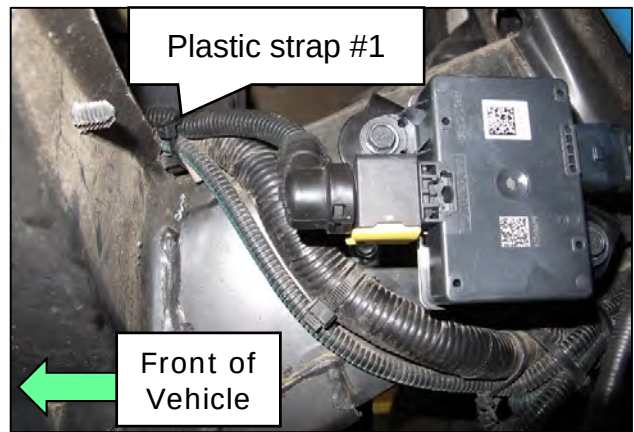
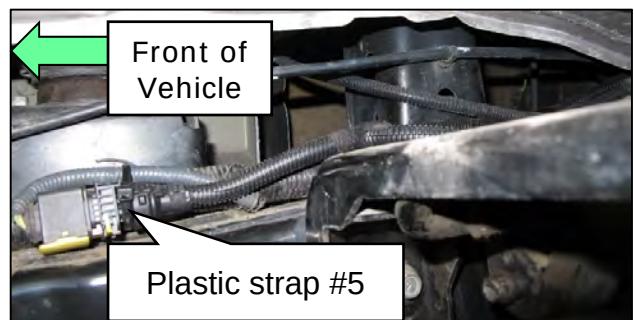

Figure 43
Figure 46
30. Working from the rear of the vehicle toward the front, secure the jumper harness to the existing chassis harness on the RH side frame rail using five (5) plastic straps (Figure 43-Figure 46).
- Five (5) plastic straps (zip-ties) will be required.
- Figure 43 is from under the vehicle at the PM sensor control unit.
- Figure 46 is from under the vehicle facing toward the RH side frame rail (inner) above the SCR catalyst.